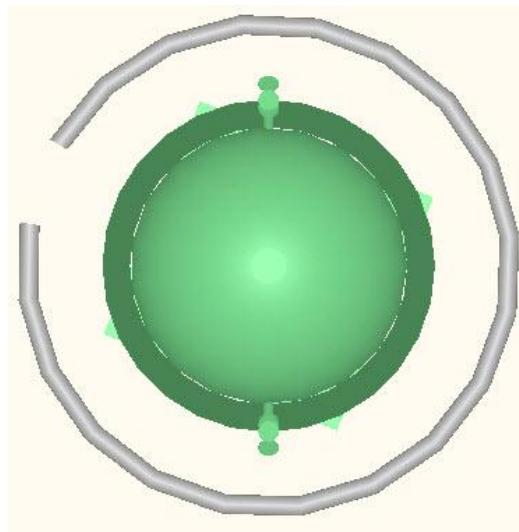

Figure 11.15: Finished Piping
26. Change the Angle of this location to 340 deg. The finished piping should look like Figure 11.15.